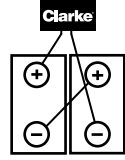
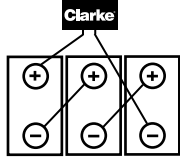

Fig.1. 24-Volt
Fig.2. 36-Volt
For batteries connected in series to equal 24 or 36 volts, use the appropriate CBMS unit designed for each voltage. [See Fig. 1 for an example of how a 24-Volt CBMS is installed on two (2) 12 volt batteries and Fig. 2 for a 36-volt CBMS on three (3) 12-volt batteries].